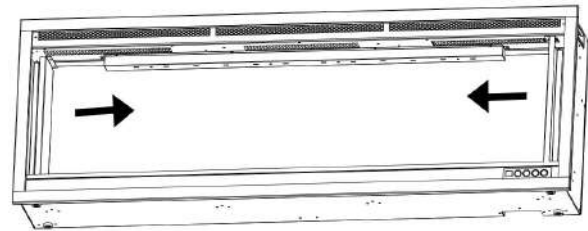

Fig. 2-2
2. Take out the two metal brackets. **Fig.2-2**